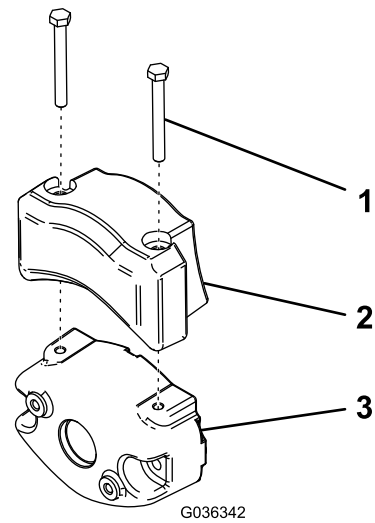

Figure 54
2. Secure the electrical counterweight to the existing counterweight with 2 capscrews as shown in Figure 54.